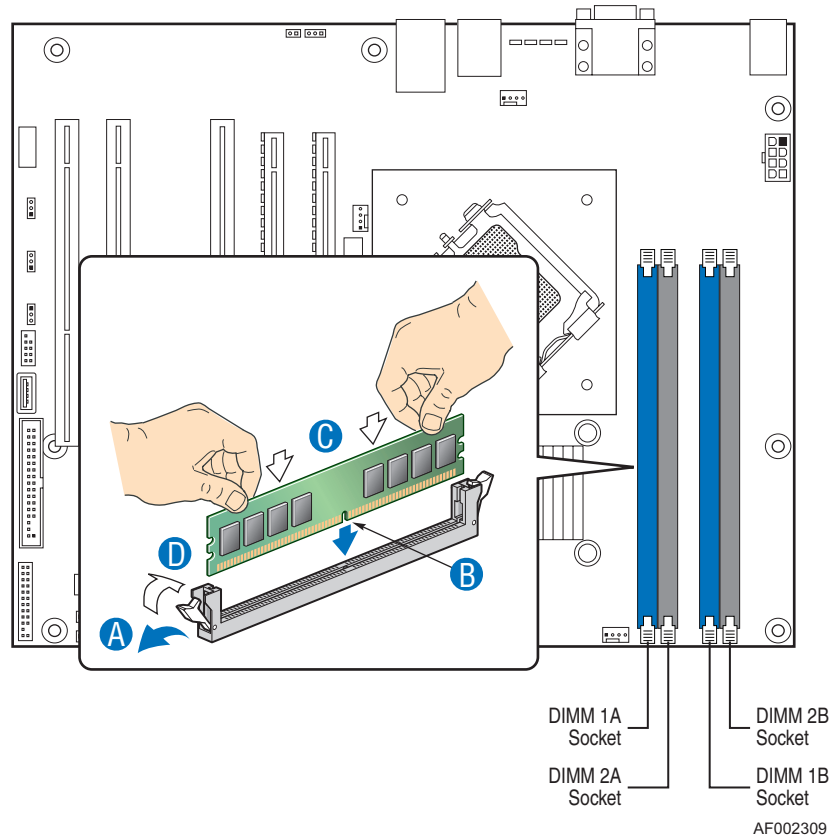

Figure 101: Upgrading the Memory
4. Press the plastic clips at the outer edge of the socket away from the memory module. This ejects the memory module from the socket (see “A” on Figure 101). Do not touch the module's metal "fingers." Store the module in an anti-static bag (available at electronic supply stores) or a cardboard box.
5. Align the new module with an empty memory socket. Make sure the notch on the module aligns with the key in the socket. The module is designed to install into the socket in only one way (see “B” on Figure 101).
6. Press the module firmly into the socket (see “C” on Figure 101). If you have difficulty installing a module, do not force it! Carefully remove the module, then check the alignment of the module's notch with the one in the socket. Then re-install the module.
7. Make sure the locking clips at either end of the module click closed (see “D” on Figure 101). If the brackets do not secure themselves to the module, carefully remove the module, then reinstall it.